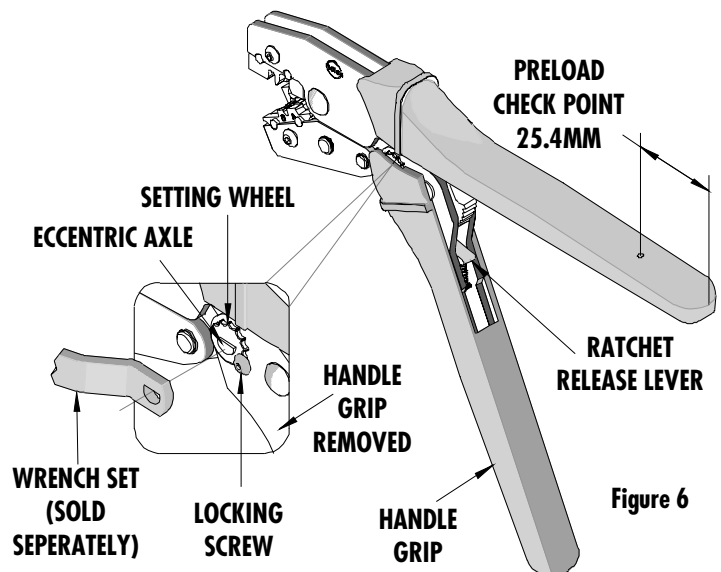

Figure 6
3. Make certain all pins; pivot points and bearing surfaces are protected with a thin coat of high quality machine oil. Do not oil excessively. The tool was engineered for durability but like any fine piece of equipment it needs cleaning and lubrication for a maximum service life of trouble free crimping. Light oil such as 30 weight automotive oil used at the oil points, shown in Figure 6, every 5,000 crimps or 3 months, will significantly enhance the tool life.
Should this tool ever become stuck or jammed in a partially closed position, **Do Not force the handles open or closed.** The tool will open easily by pressing the ratchet release lever. See Figure 6.
How to Adjust Tool Preload (See Figure 6)